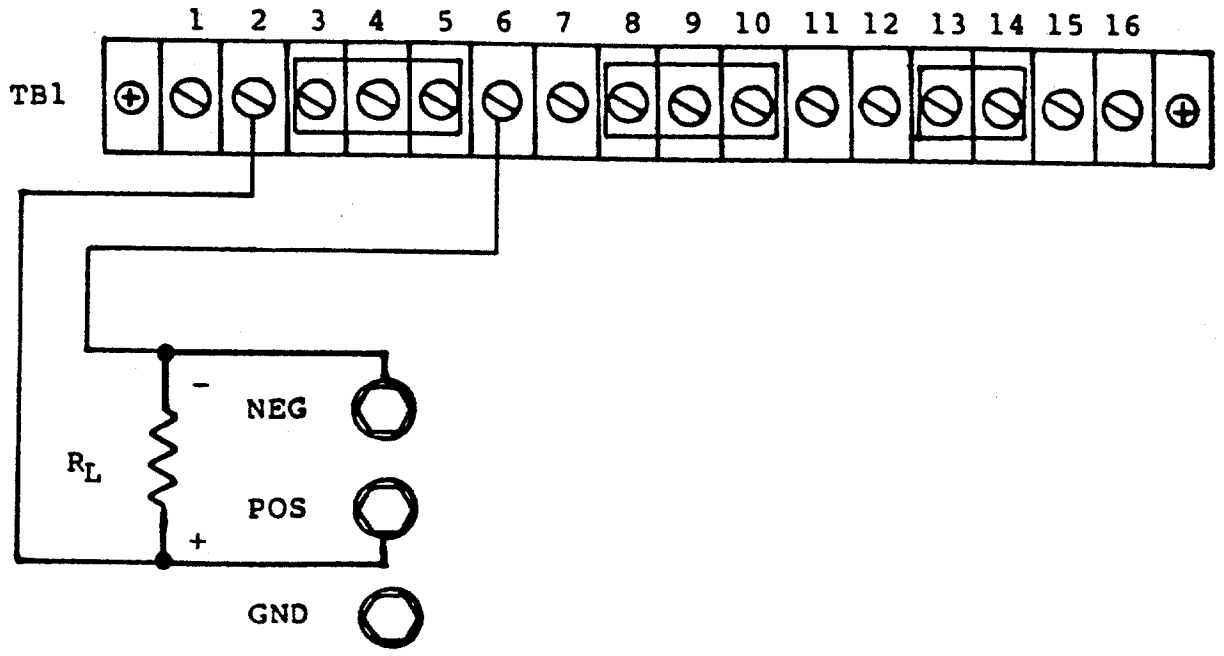

Figure 3-7. Remote Sensing Operation
d. Remote Sensing.1 In applications where the load is located some distance from the power supply or the voltage drop of the power output leads significantly interferes with load regulation, remote voltage sensing may be used. When remote sensing is used, voltage is regulated at the load versus the power supply output terminals. To connect the power supply for remote voltage sensing (see Figure 3-7 for strapping requirements):